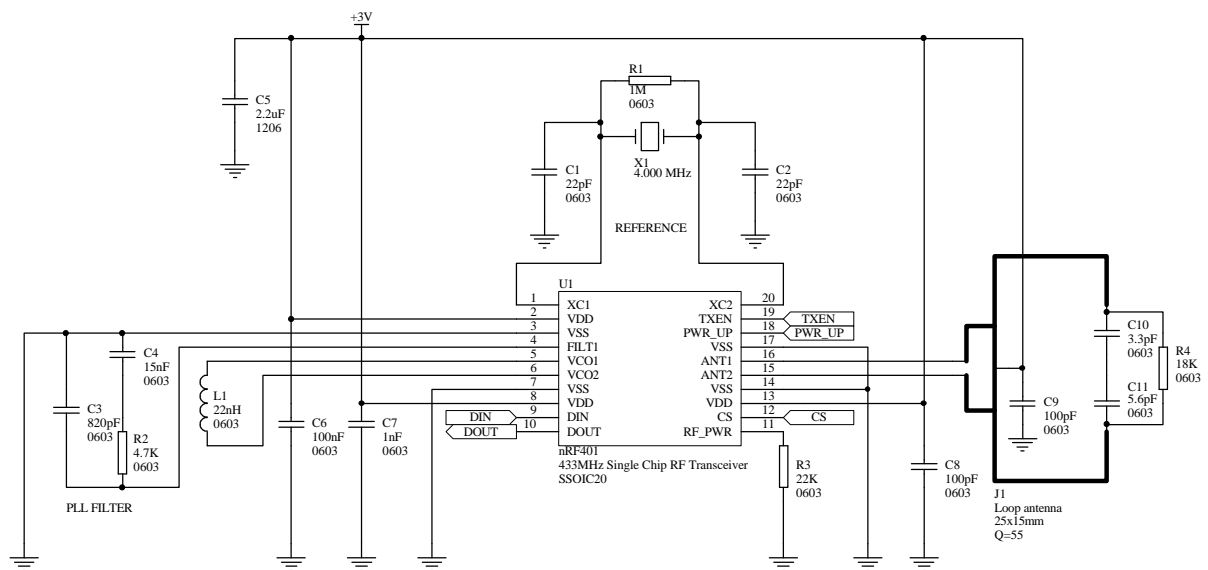
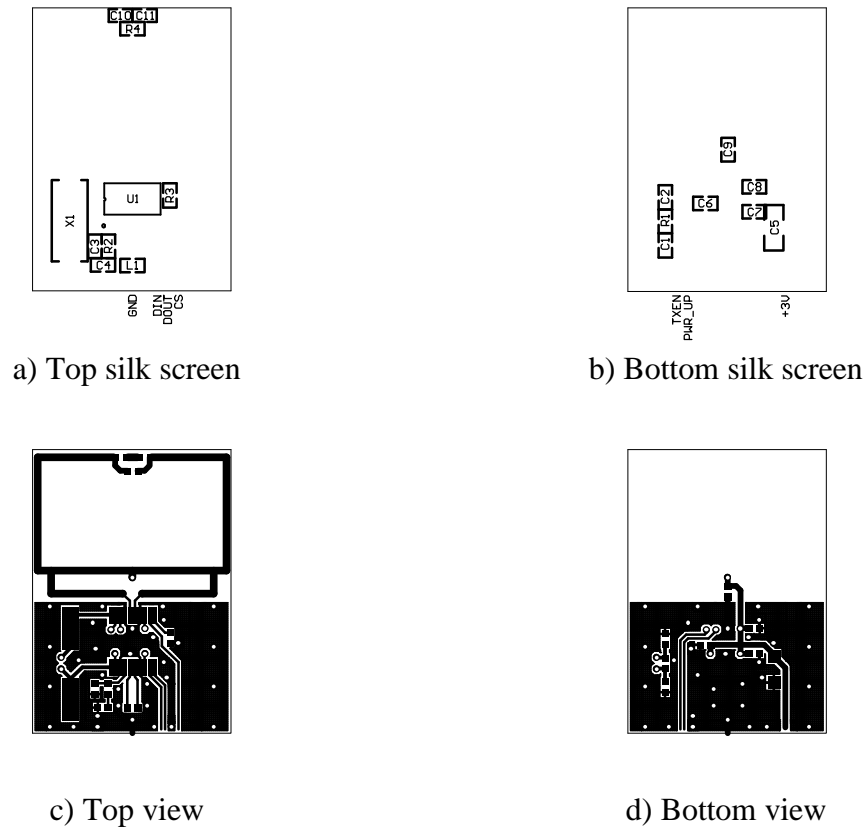

Figure 12. nRF401 application schematic.
Figure 13. PCB layout (example) for nRF401 with loop antenna.
Figure 12 shows a typical application schematic with a differential loop antenna on a Printed Circuit Board (PCB). The output stage (PA) consists of two open collector transistors in a differential pair configuration. VDD to the PA must be supplied through the collector load. When connecting a differential loop antenna to the ANT1/ANT2 pins, VDD should be supplied through the centre of the loop antenna as shown in Figure 12.
The synthesiser loop filter is an external, single-ended second order lag-lead filter. The recommended filter component values are: C3 = 820 pF, C4 =15 nF, and R2 = 4.7 kΩ, see Figure 12.
C1 and C2 are 0603 SMD capacitors as shown in the application schematic, see Figure 12 and Table 9. C_{PCB1} and C_{PCB2} are the layout parasitic capacitance on the circuit board.
The VCO inductor placement is important. The optimum placement of the VCO inductor gives a PLL loop filter voltage of 1.1 ± 0.2 V, which can be measured at FILT1 (pin4). For a 0603 size inductor the length between the centre of the VCO1/VCO2 pad and the centre of the inductor pad should be 5.4 mm, see Figure 13 (c) (layout, top view), for a 2 layer, 1.6 mm thick FR4 PCB.
Figure 13 shows a PCB layout example for the application schematic in Figure 12. A double-sided FR-4 board of 1.6mm thickness is used. This PCB has a continuous ground plane on the bottom layer. Additionally, there are ground areas on the component side of the board to ensure sufficient grounding of critical components. A large number of via holes connect the top layer ground areas to the bottom layer ground plane. There is no ground plane beneath the antenna.